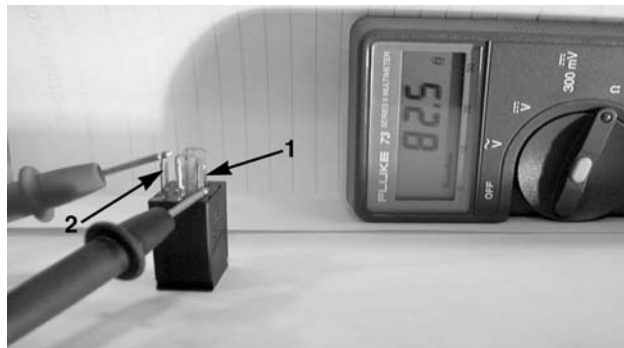

Figure 9-93
–Depending on the temperature, the ohms reading should be approximately 82 ohms. See Figure 9-93.